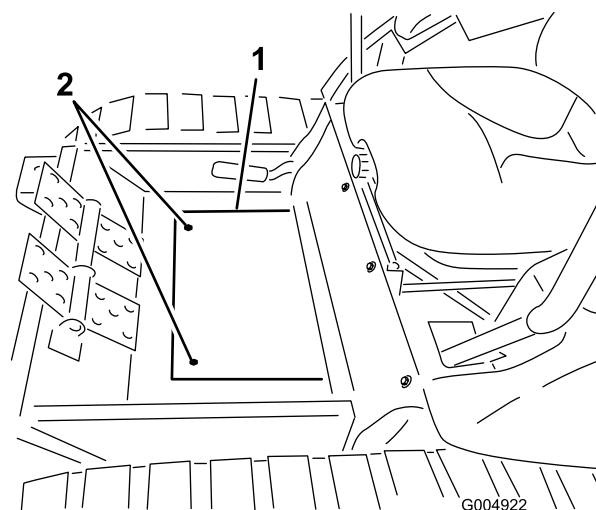

Figure 125
40. Install the winter frame floor plate cover to the floor with the screws previously removed (Figure 125).